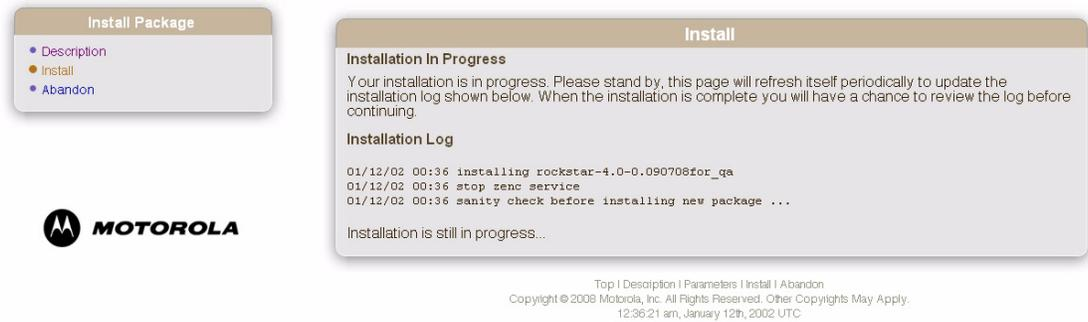

Figure 63: Installation In Progress Page
7. Click **Next** -> **Install** to begin the installation page. The installation progresses, as shown in Figure 63.